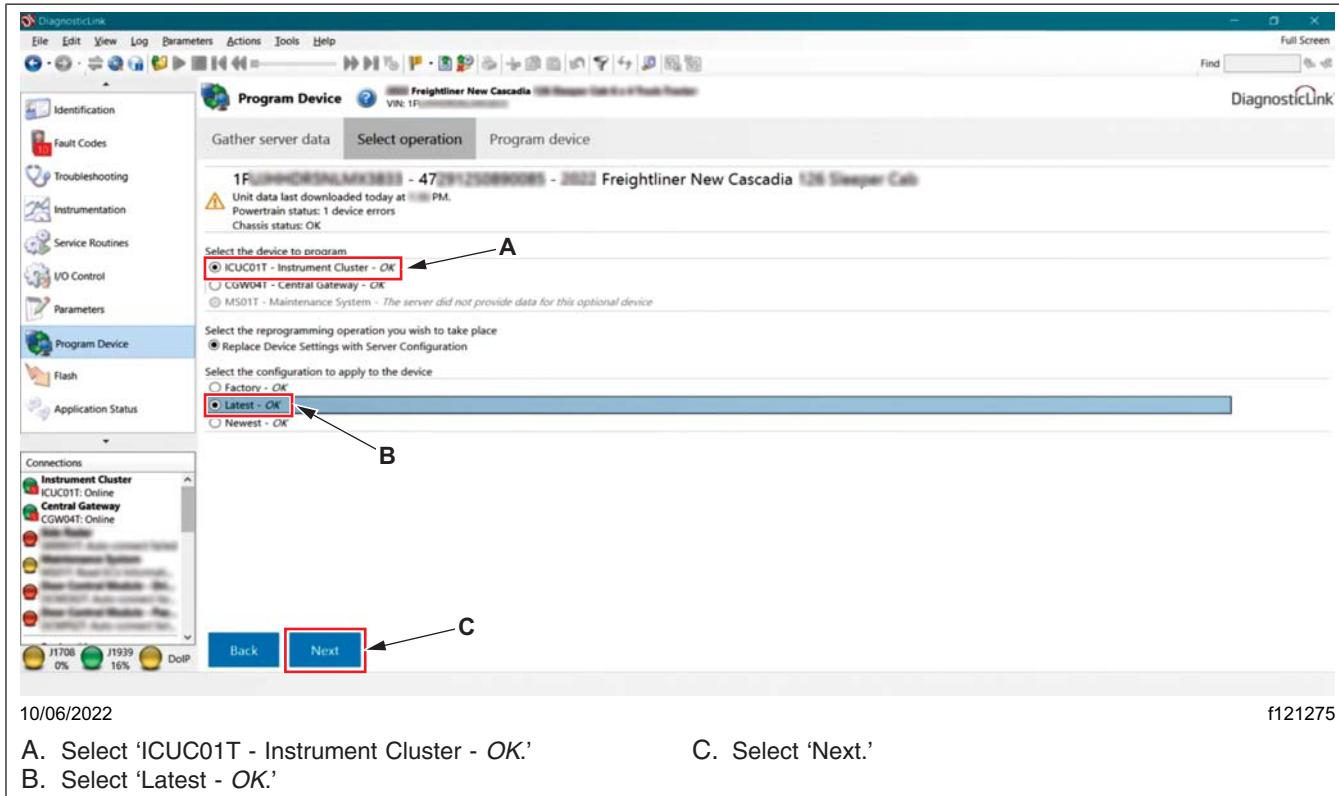

Fig. 19, Selecting the Device Configuration
24.1 Select 'ICUC01T - Instrument Cluster - *OK*' as the device to program. See **Fig. 19**.
24.2 Select 'Latest - *OK*' as the configuration to apply to the device. See **Fig. 19**.
24.3 Select 'Next.' See **Fig. 19**.